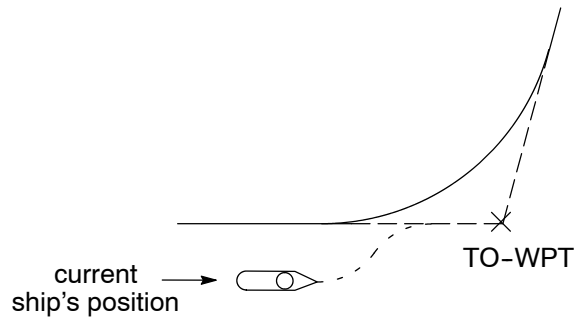
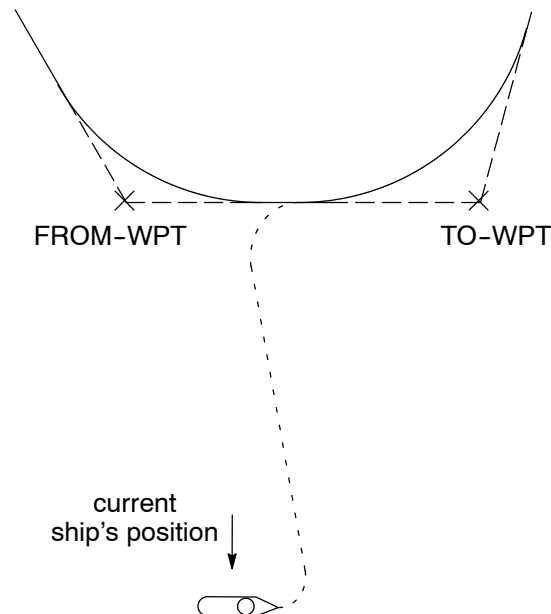

Fig. 10: Intended GO-TO-TRACK Maneuver Impossible with the Ship too Close to the TO-WPT
Fig. 11: Track Control Impossible with the Distance to the Track too Large
1. On activating track control (See Fig. 10 and Fig. 11)